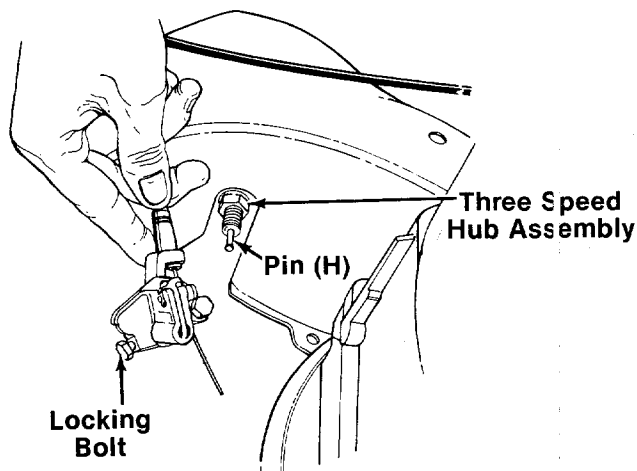

FIGURE 9.
- b. Insert pin (H) into hub assembly as shown in figure 9.
- c. Loosen the locking bolt on the mechanism shown in figure 9 using a 9 mm wrench or socket.